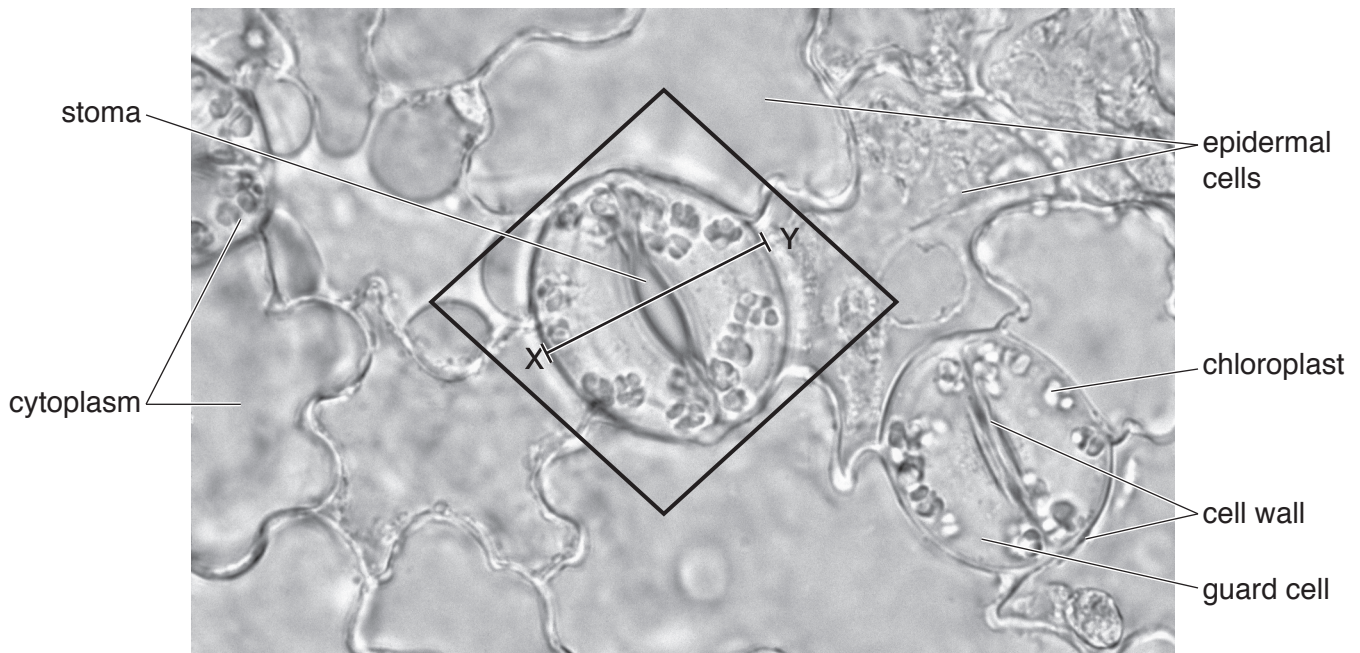

Fig. 2.1
2 Fig. 2.1 is a photomicrograph of the epidermis of a leaf. It shows epidermal cells, guard cells and stomata.
- (ii) Make a large drawing of the two guard cells and the stoma shown inside the box on Fig. 2.1.
- (b) Measure the total width of the guard cells and stoma along the line **XY** on Fig. 2.1. Include the units.
Total width of the guard cells and stoma on Fig. 2.1
$$\text{magnification} = \frac{\text{width on your drawing}}{\text{width on Fig. 2.1}}$$